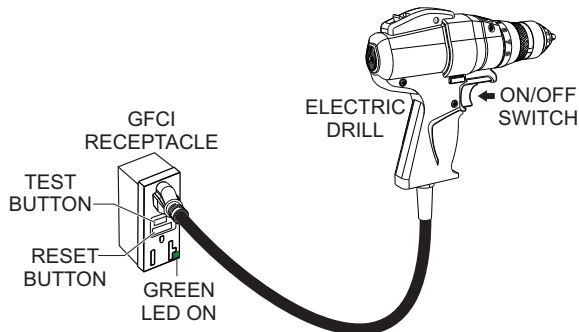

Figure 70. GFCI Receptacle Test
4. Plug a power tool into the GFCI receptacle such as an electric drill (Figure 70). Squeeze the ON/OFF switch on the drill and verify that the drill turns on.